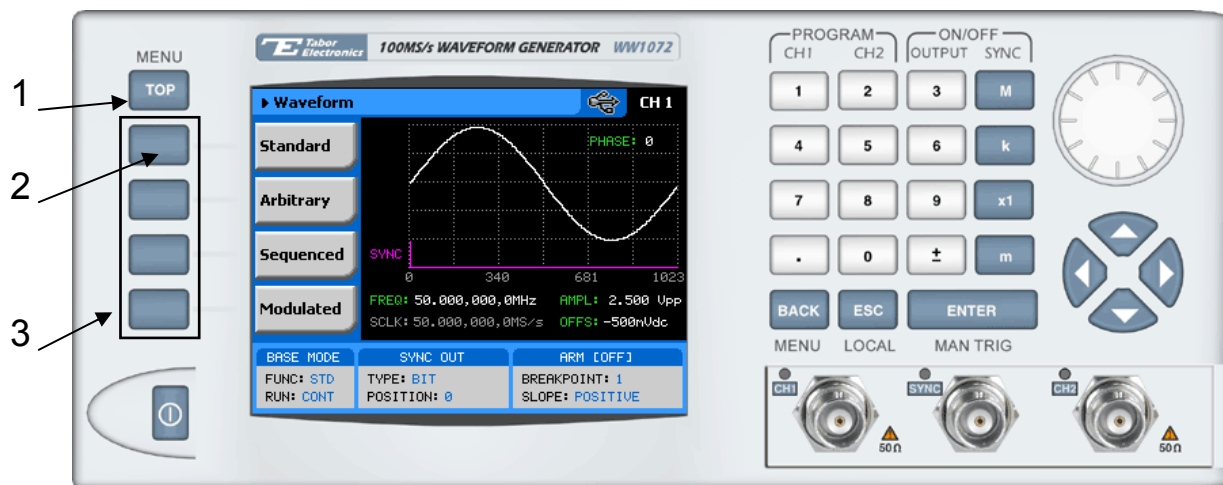

Figure 3-4, Selecting an Output Waveform Type
There are four main types of waveforms that the 1072 can produce: Standard, Arbitrary, Sequenced and Modulated waveforms. Standard and modulated waveforms are computed from equations and tables that are built into the program. The instrument can output arbitrary and sequenced waveforms only after waveform data has been downloaded into its memory. Refer to Figure 3-4 and use the following procedure to select an output type. Note that there are sub-menus associated with each output type menu. Accessing and using these sub-menus is described later in this chapter. The numbers on Figure 3-4 correspond to the procedure steps in the following description.
2. Press Waveforms, the display as shown in Figure 3-4 will open.